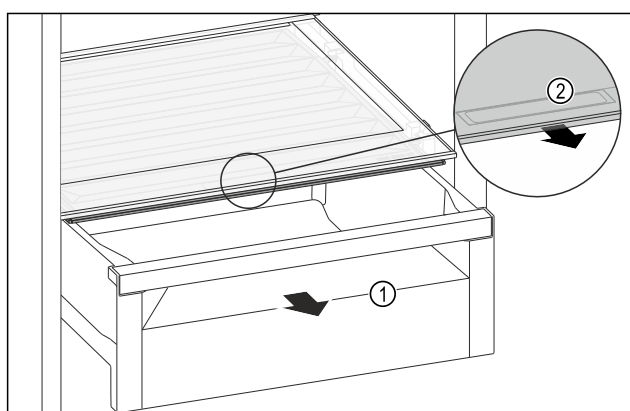

Fig. 203
- Pull out the drawer Fig. 203 (1).
- Grip the handle recess Fig. 203 (2) on the lid while pulling the lid forward at the same time.